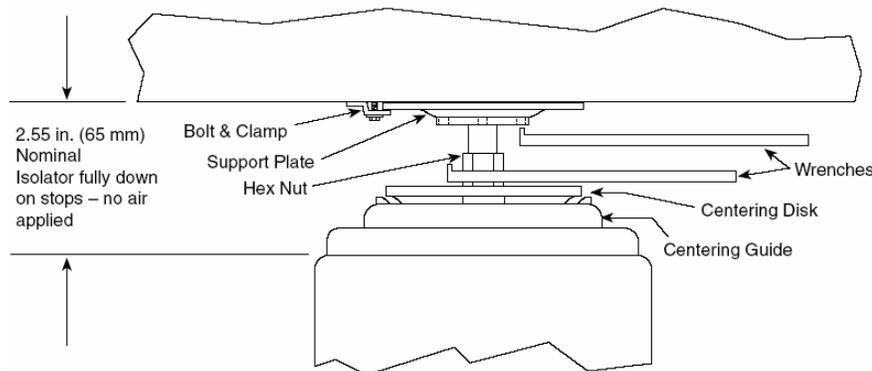

Figure 4 — Level Adjustment of Isolators
1. As shown in Figure 4, use one of the special wrenches to hold the hex nut stationary. Insert the prongs of the second wrench into the holes on the bottom of the support plate. Rotate the plate using the top wrench to adjust the height.
3. For each isolator, adjust the support plates as required to bring the table to a level condition. Be sure to check the level using both the length and width axes of the table. Verify that the centering disks are centered in and resting on their respective guides (Figure 4).
4. When the table is completely level, ensure by eye that every isolator support plate is snug against the table bottom and that each centering disk is centered in its guide (Figure 4).